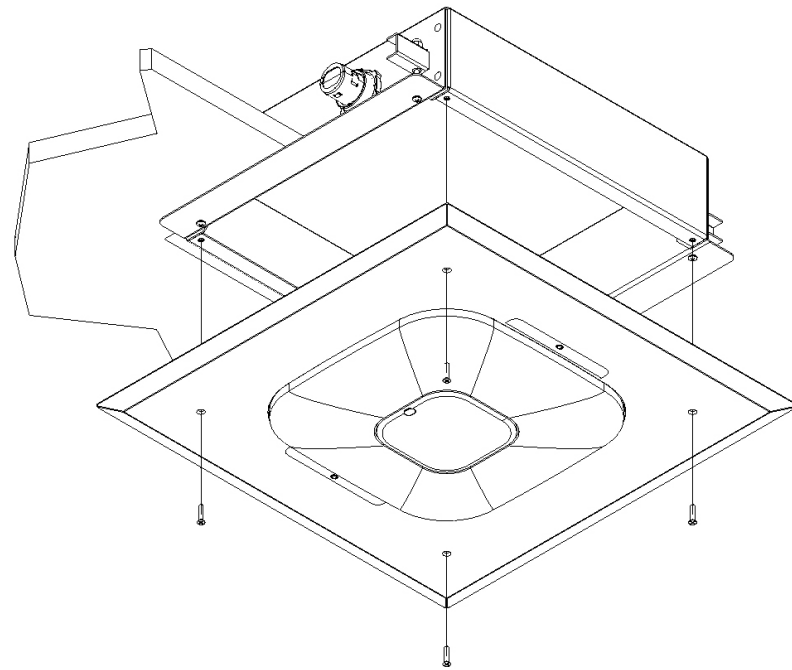

Figure 7 – Trim Install
Step 9 – Once the access point is secured and Ethernet are connected, screw the trim with access point into the installed back box using the provided painted screws (Figure 7). The installation is now complete.